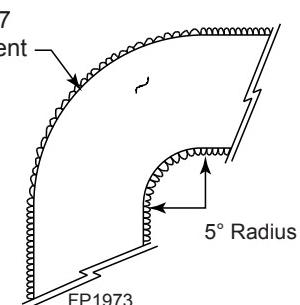

Figure 25 -
3. Do not allow the flexible vent to bend in radius tighter than 5" (127 mm). *Figure 25*